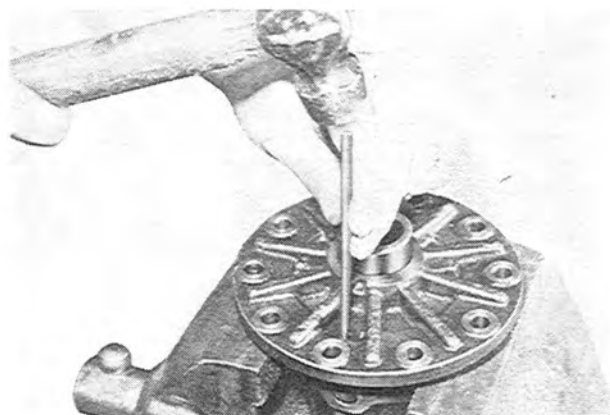

Fig. 9-12 Removing of lock pin
3. From the back side of the ring gear flange, drive the pinion shaft lock pin out of the gear case with a suitable drift, as shown in Fig. 9-12.